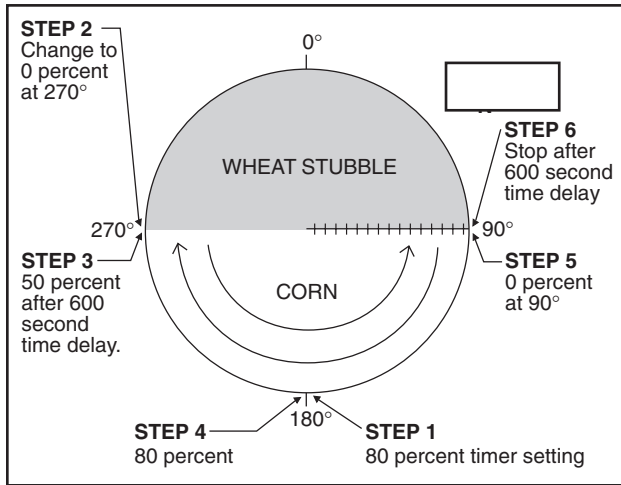

Figure 130-1
In this example, the machine is being programmed to REVERSE at 270° and STOP at 90°. End-of-field stop/ auto reverse is not being used since there are no physical obstacles in the field. Refer to Figure 130-1.
- Push **Prog.** and **Step Prog.** to view the Step Program screen. Refer to Figure 130-1.